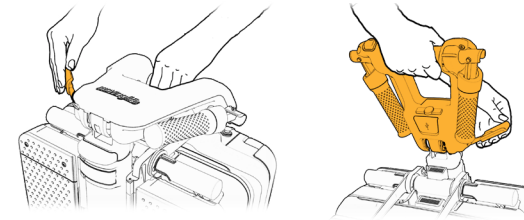

Figure 4
2. Release the adjustment lever of the handlebar (1) and bring the handlebar to an upright position (2), then bring the lever back to its secured position (3) (see Figure 4).